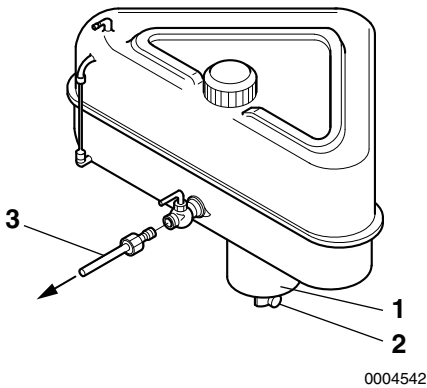

Figure 1
1. Put a pan under the drain cock **(Figure 1, (2))** to catch fuel.